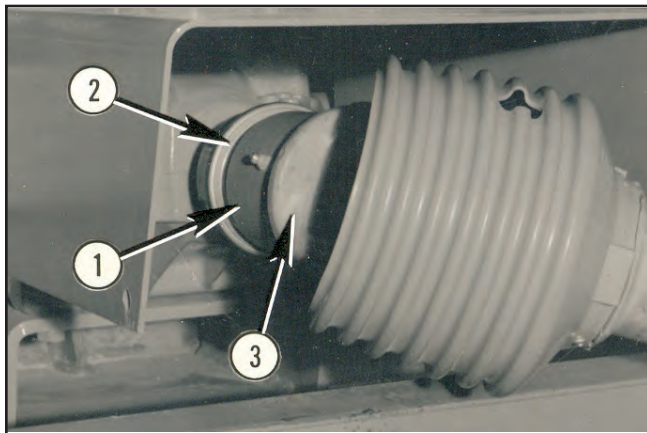

FIGURE 110
All shredder PTO's have similar sliding yoke couplers at tractor and gearbox ends. GEARBOX ENDS ARE IDENTIFIED BY AN OVERRUNNING CLUTCH (1). See Figure 110.